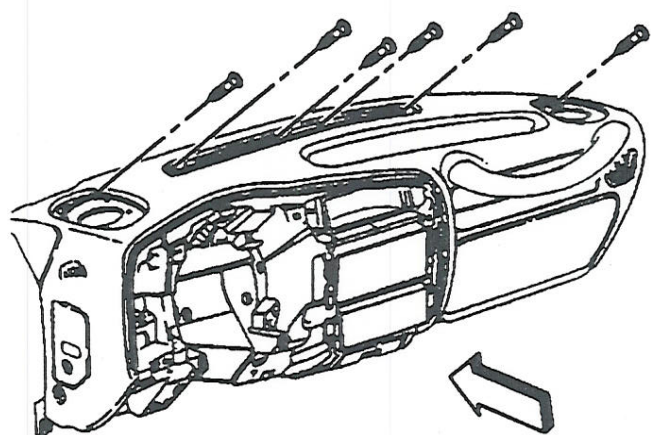

Fig. 30 Instrument panel removal. 1998–2001 S & T
13. Remove instrument panel attaching screws as illustrated in Fig. 30.